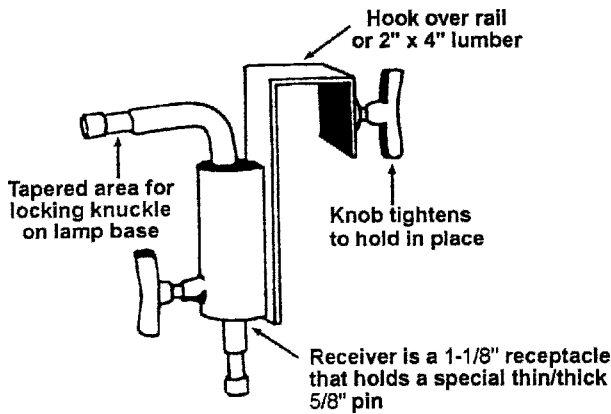

Figure 2.18 Crowder hanger.
1. The crowder hanger (Figure 2.18) is similar in design to a set wall bracket.